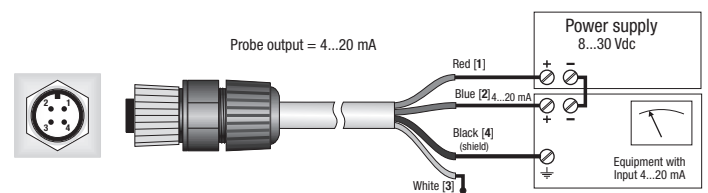

Figure 4.2: Connection diagram of LP UV I 02 AC.
- The LP UV I 02 AC, with an adequate power supply, can be connected to a multimeter or to a data logger according to the following scheme (Figure 4.2), the load resistance for the reading of the signal must be $\leq 500 \Omega$: